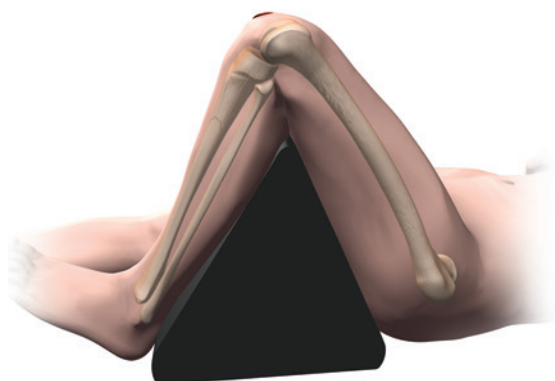

Figure 2
2. Use a bolster or radiolucent triangle to maintain limb position (Figure 2).